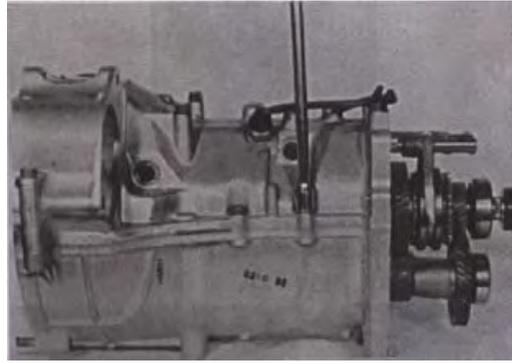
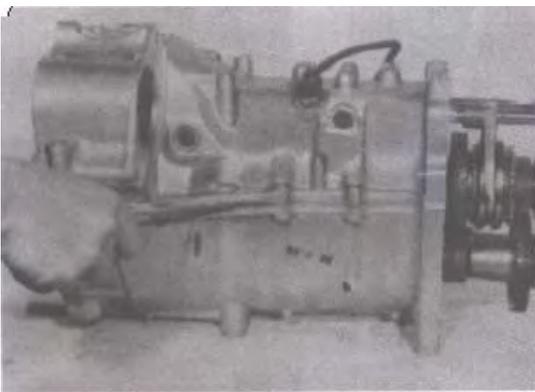
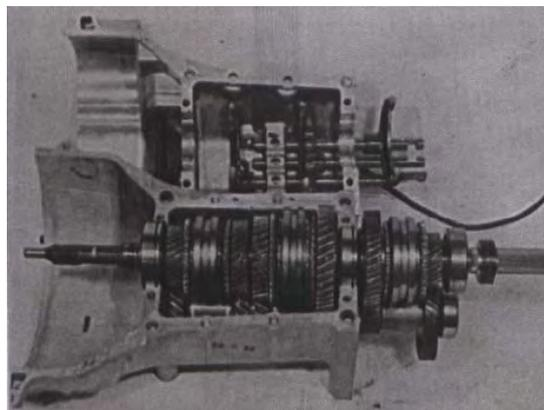

Fig10-16
Fig 10-17
Fig 10-18
- (5) Remove bolts fastening upper and lower cases together, separate cases, and take out main shaft assembly. A steel bar, similar in shape to screwdriver, may have to be used to pry cases apart. In doing so, do not stick bar too far into between two mating faces, or faces may become damaged. (FIG.10-16, FIG.10-17, FIG.10-18)